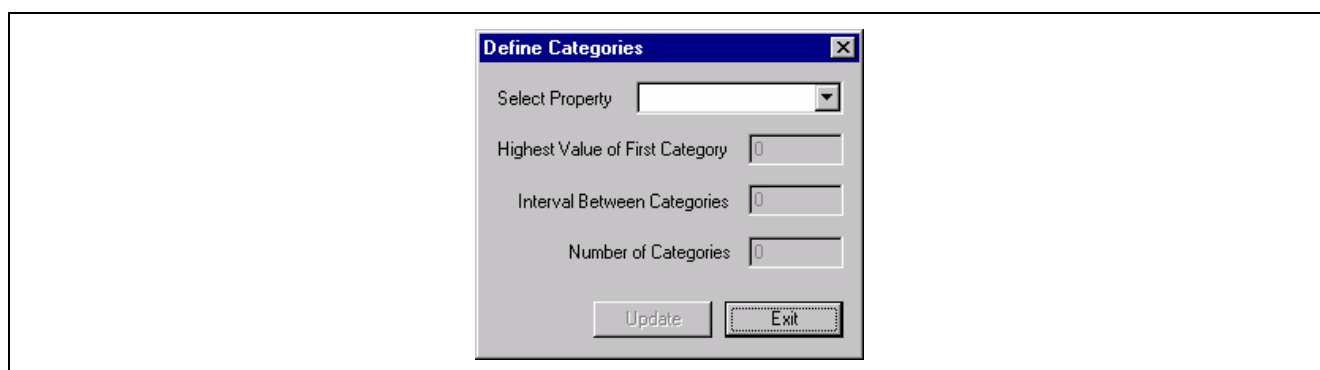
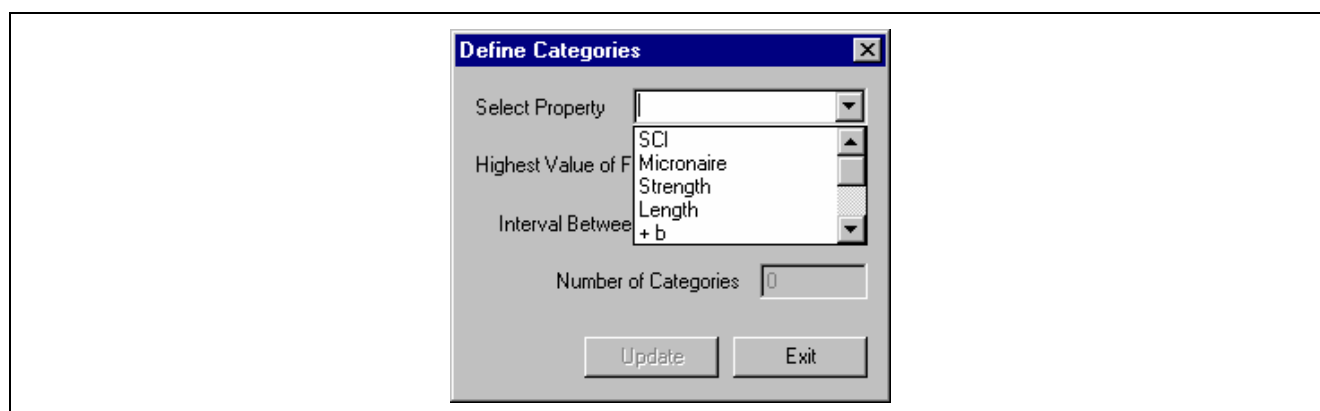

Fig. 6-18 Define Categories Screen I
Fig. 6-19 Define Categories Screen II
Select Configure again and on the pull-down menu select Categories. The Define Categories window appears (Fig. 6-18).
Select the down arrow (Fig. 6-18) to position the cursor at Select Property to see the list of fiber properties (Fig. 6-19).
- 6.4 Select Configure again and on the pull-down menu select Categories (Fig. 6-18). Same as step 5.